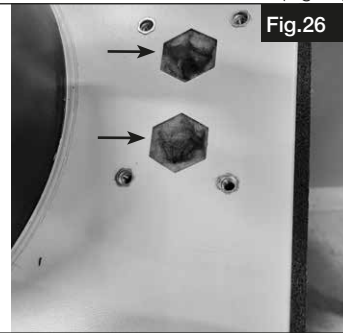
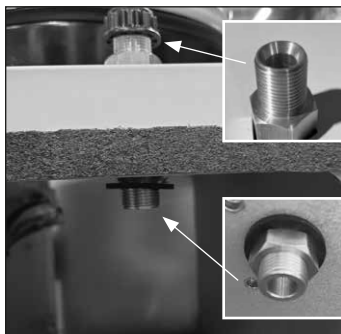

Fig.26
Fig.27
2. Remove the plates on the upper side of the unit (inside and outside). Remove the screws with a screwdriver (Fig.26).
3. Install the hot water coil collector connection (brass fitting with flat side down), see Fig.26/Fig.27.